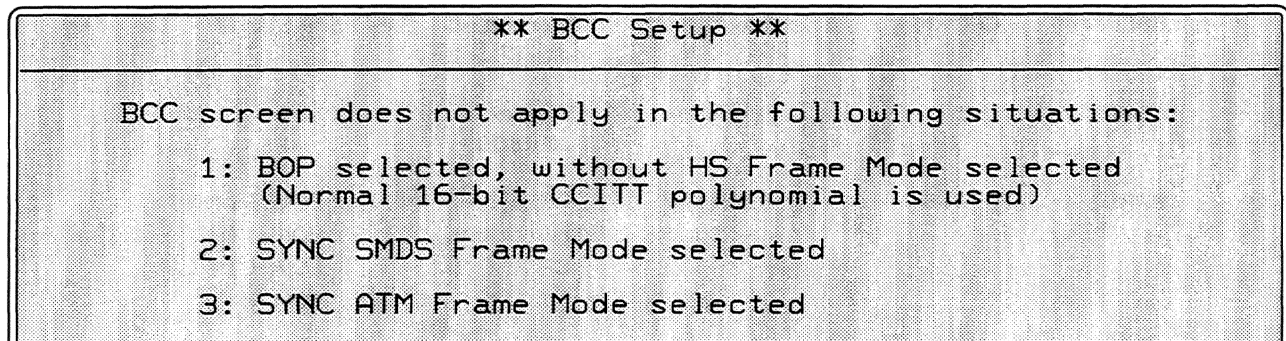

Figure 10-9 BCC Setup display in BOP format with High Speed Frame Mode selected or in SYNC format with **HS Frame Mode:** SMDS or ATM selected.
1. *Not In High Speed Frame Mode.* When **High Speed Frame Mode:** NO is selected on the Line Setup screen, the BCC Setup screen is not accessible. The unit uses BCC calculations standard for BOP. Instead, Figure 10-9 is displayed.
For Sync in SMDS Frame Mode (Switched Multimegabit Data Service) and ATM Frame Mode (Asynchronous Transfer Mode), the INTERVIEW defaults to the BCC calculations standard for these modes. The parameters for these calculations cannot be changed on the BCC Setup screen and do not appear—the standard BCC Setup screen is inaccessible (see Figure 10-9).